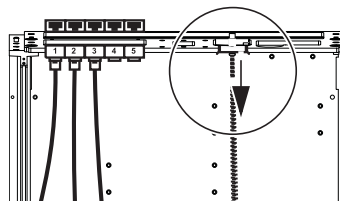

Figure 9. Power harness (make sure it is disconnected before installing Ethernet switch)
- If necessary, disconnect the power harness from the terminal port on the inside of the Back Tie Plate (see Figure 9).